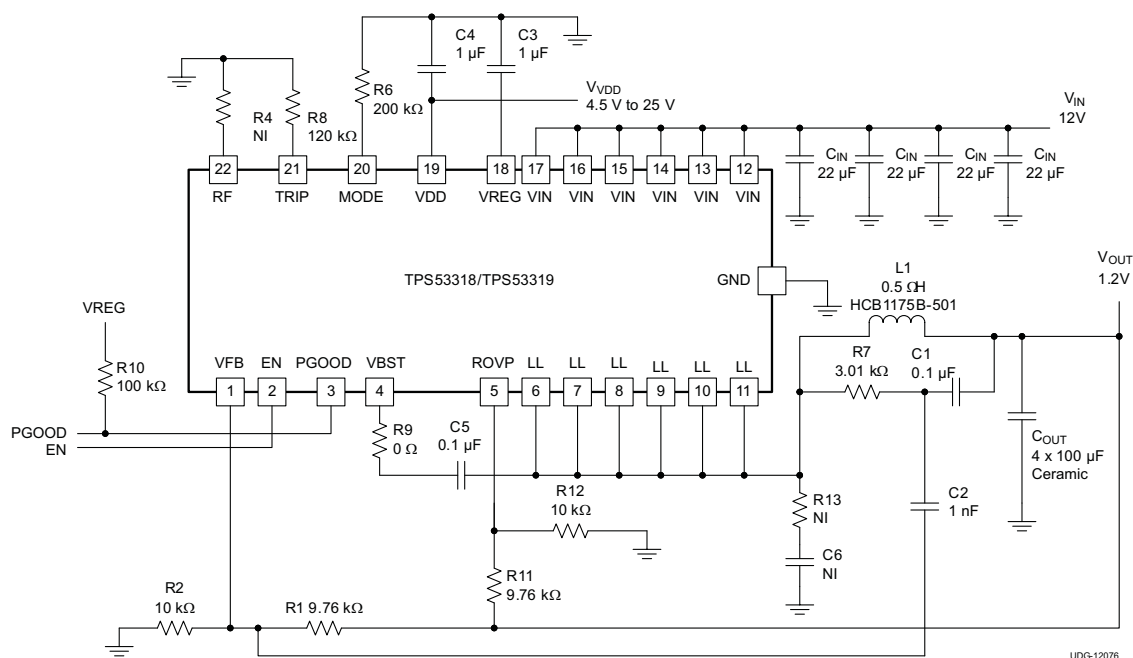

Figure 45. Typical Application Circuit, Redundent OVP Enabled
The redundant overvoltage level is programmed according to the output voltage setting, it is controlled by resistors R11 and R12 as shown in Figure 45. Connect resistor R11 between the ROVP pin and the output, and connect resistor R12 between the ROVP pin and GND. This design recommends that the value of resistor R11 match the value of resistor R1 (or slightly higher), and that the value of resistor R2 match the value of resistor R12.
- Connect the ripple injection V_{OUT} signal (V_{OUT} side of the C1 capacitor in Figure 45) from the terminal of ceramic output capacitor. The AC coupling capacitor (C2 in Figure 45) should be placed near the device, and R7 and C1 can be placed near the power stage.